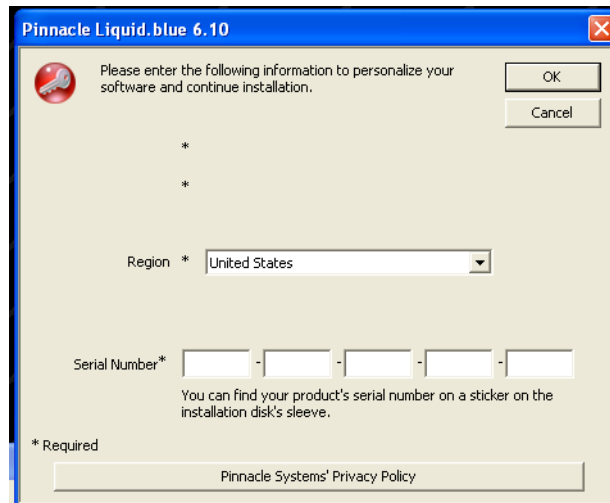

Figure 3-3: Serial Number Dialog
10. Enter your serial number as shown in Figure 3-3. The Serial number is located on the Blue installation CD sleeve. If you can not locate your serial number, call Pinnacle technical support.